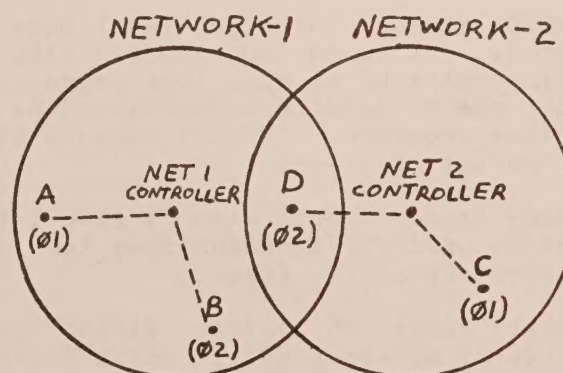

FIGURE 2.
A problem that shows up with both the presently used system, and the dynamically assigned address proposal is that of a station location within two or more local network rf fields. Fig. 2 illustrates this problem. There are 2 local networks, controlled by network controller 1, and network controller 2. Station A has been given address 01 by controller 1, and is "connected" to station B (address 02). At the same time, station C comes on network 2, and is assigned address 01 by controller 2. He then connects to station D, who becomes address 02 on network 2. As soon as station D transmits using address 02, network controller 1 thinks it came from its station 02 (B), and network 1 soon becomes blown away. Also, keep in mind a "local" network could be a city-wide network, or a nation-wide hf network, or a satellite network, so this could become a big problem.